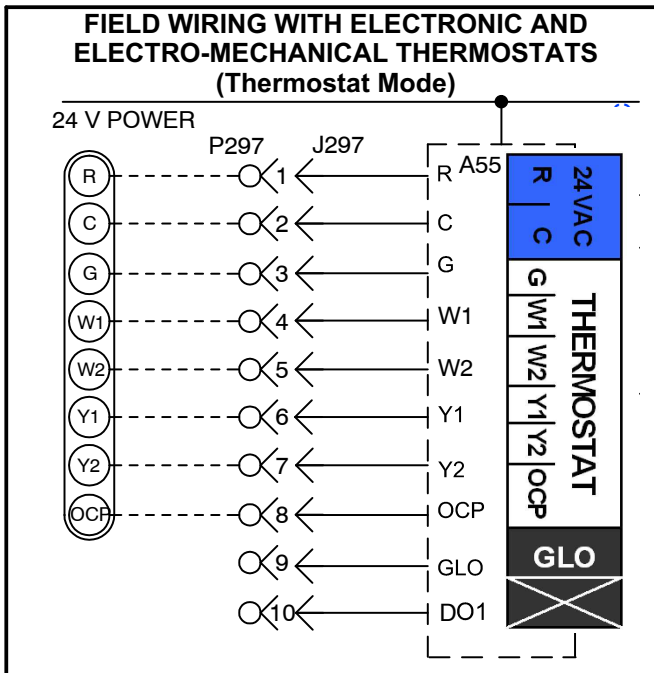
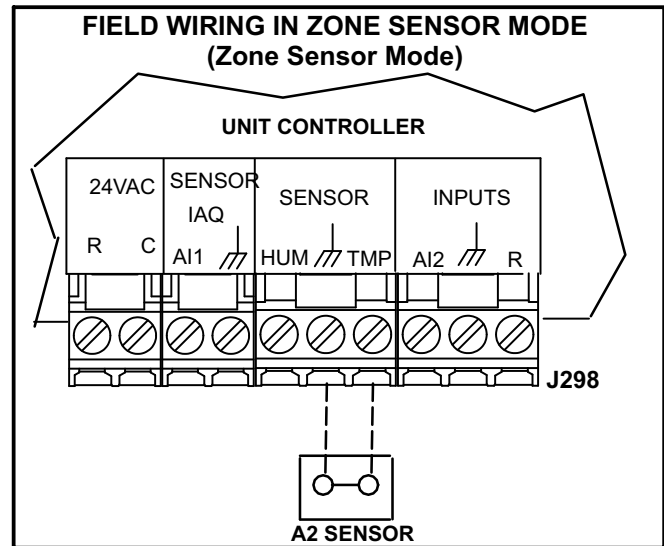
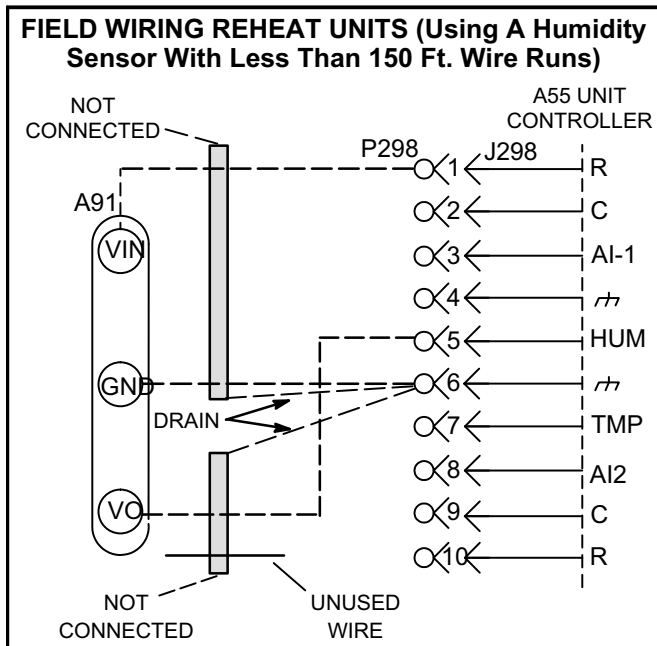
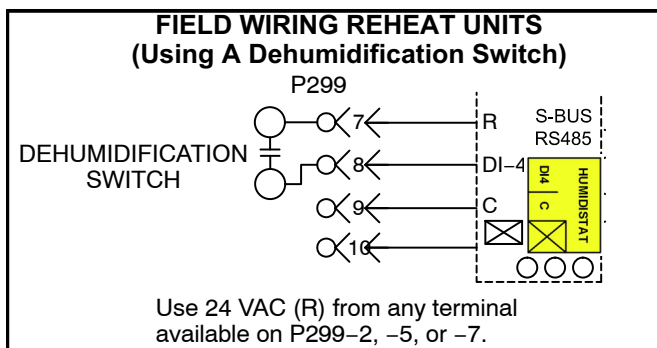

FIGURE 9
FIGURE 10
FIGURE 11
FIGURE 13
The Unit Controller will operate two stages of heating and cooling based on thermostat demands. Install thermostat assembly in accordance with instructions provided with thermostat. See figure 9 for field wiring and refer to wiring diagrams on unit.
The Unit Controller will operate heating and cooling based on the Unit Controller internal setpoints and the temperature from the A2 zone sensor. An optional Network Control Panel (NCP) can also be used to provide setpoints. A thermostat or return air sensor can be used as a back-up mode. Make zone sensor wiring connections as shown in figure 10.
- 2- Make wiring connections as shown in figure 9 for Thermostat Mode and figure 10 for Zone Sensor Mode. In addition, connect either a humidity sensor or a dehumidification input. See figure 11 or 12 for humidity sensor wiring and figure 13 for dehumidification input wiring.
Use two separate shielded cables containing 20AWG minimum, twisted pair conductors with overall shield. Belden type 8762 or 88760 (plenum) or equivalent. Connect both cable shield drain wires to TB1-7 as shown in figure 11.
Use two separate shielded cables containing 18AWG minimum, twisted pair conductors with overall shield. Belden type 8760 or 88760 (plenum) or equivalent. Connect both cable shield drain wires to TB1-7 as shown in figure 11.